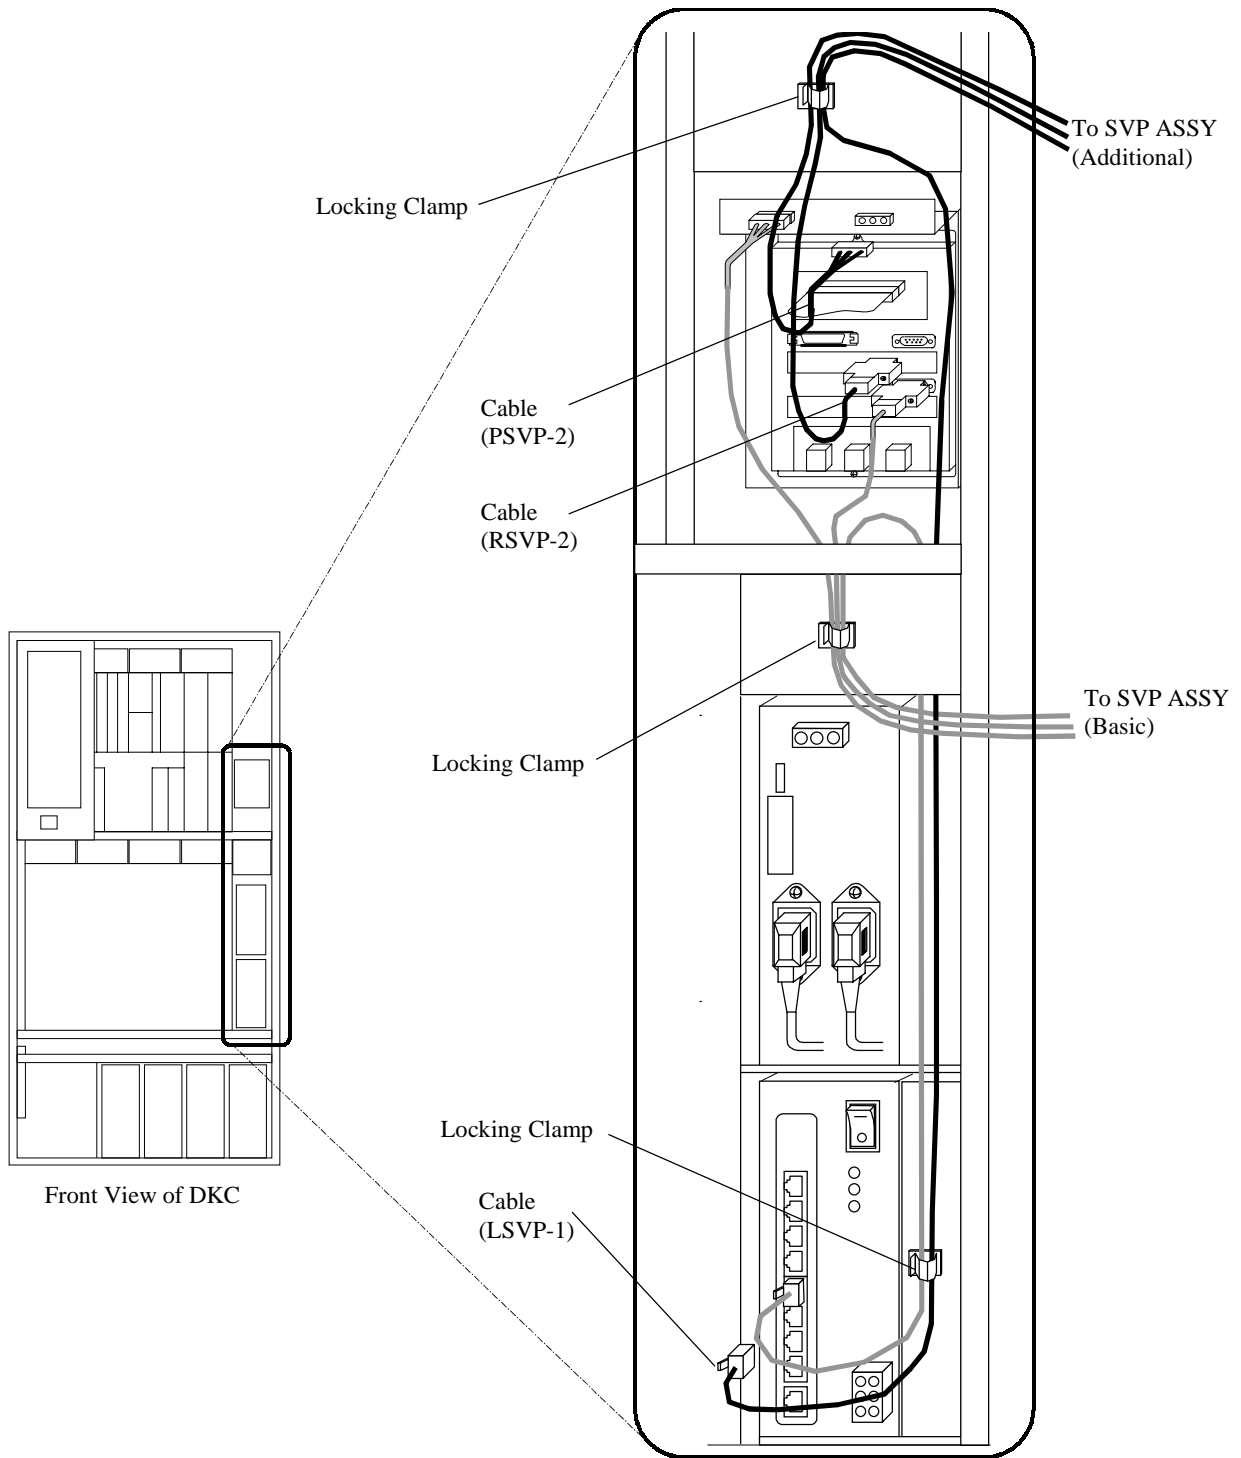

Fig. T7.1-8A Removal of Cables
- c. Open the locking clamps and remove the cables. (See Fig. T7.1-8A [REP03-510].)